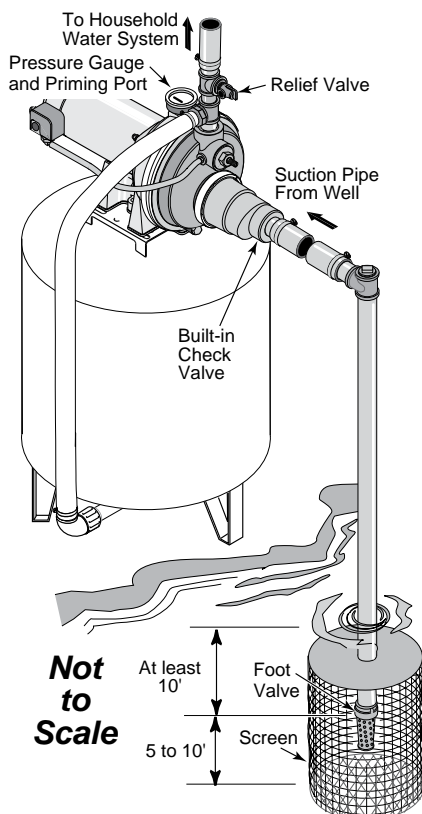

Figure 9: Surface Water Installation
4. Assemble a foot valve and suction pipe (see Figure 9). Make sure that the foot valve works freely. Use PTFE pipe thread sealant tape or a PTFE-based pipe joint compound on threaded pipe joints. Protect the foot valve assembly from fish, trash, etc. by installing a screen around it (see Figure 9).
6. Install a priming tee, priming plug, and suction pipe to the pump (see Figure 9). Support the pipe so that there are no dips or sags in the pipe, so it doesn't strain the pump body, and so that it slopes slightly upward from the well to the pump (high spots can cause air pockets which can air lock the pump). Seal the suction pipe joints with PTFE pipe thread sealant tape or a PTFE-based pipe joint compound. Joints must be air- and water-tight. If the suction pipe can suck air, the pump cannot pull water from the well.